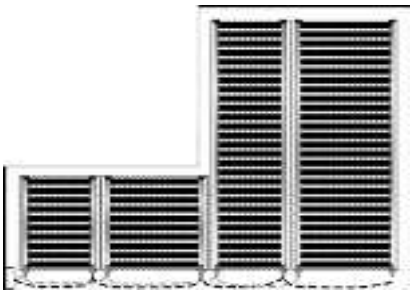

fig. 1
- Figure 1 shows how the laying and connection of the foils should be done. The different widths can be combined freely to cover the surface in the best way.